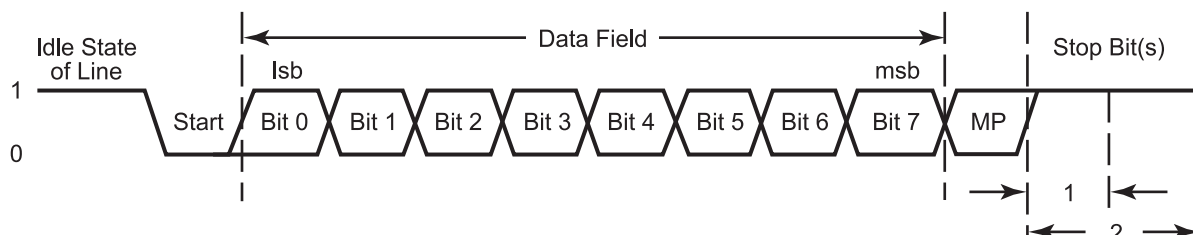

Figure 23. LIN-UART Asynchronous MULTIPROCESSOR Mode Data Format
The LIN-UART features a MULTIPROCESSOR (9-bit) Mode that uses an extra (9th) bit for selective communication when a number of processors share a common UART bus. In MULTIPROCESSOR Mode (also referred to as 9-bit mode), the multiprocessor bit (MP) is transmitted immediately following the 8 bits of data and immediately preceding the stop bit(s) as displayed in Figure 23.